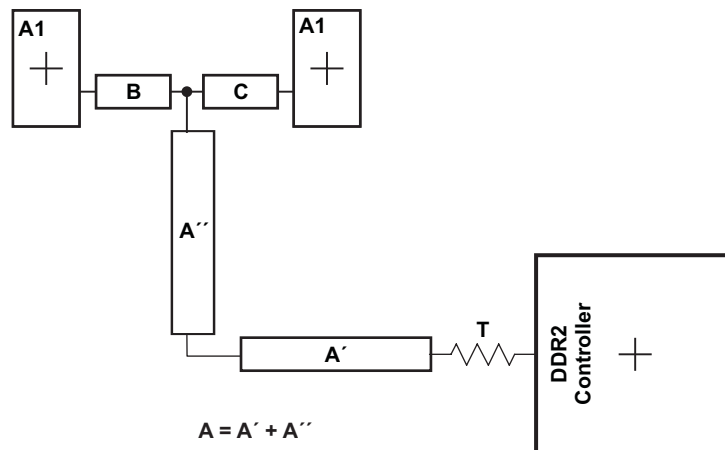

Figure 8-52. CK and ADDR_CTRL Routing and Topology
Figure 8-52 shows the topology of the routing for the CK and ADDR_CTRL net classes. The route is a balanced T as it is intended that the length of segments B and C be equal. In addition, the length of A ($A' + A''$) should be maximized.
(1) The length of segment A = $A' + A''$ as shown in Figure 8-52.
(2) Series terminator, if used, should be located closest to the DSP.
(3) Center-to-center spacing is allowed to fall to minimum (w) for up to 500 mils of routed length to accommodate BGA escape and routing congestion.
(4) CACLM is the longest Manhattan distance of the CK and ADDR_CTRL net classes.